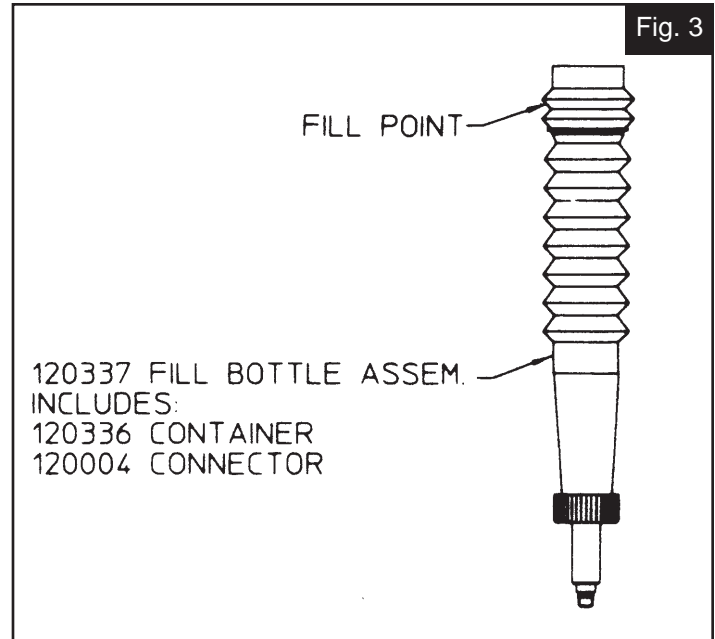

Fig. 3
2. Fill bleed bottle almost full of DEXRON II or III - - ATF (automatic transmission fluid) - - see *FIGURE 3*.